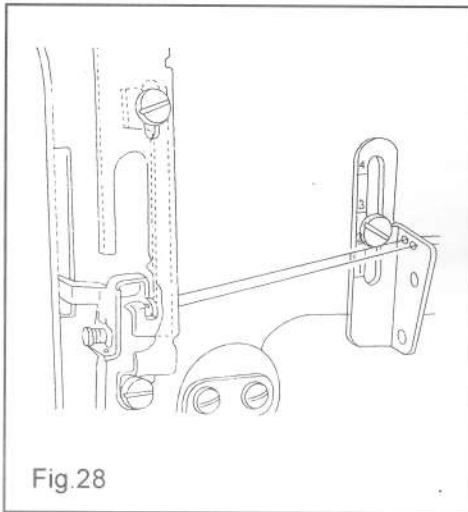

Fig.28
24. The position of the thread-amount adjusting plate of the thread take-up lever:(Fig 28)